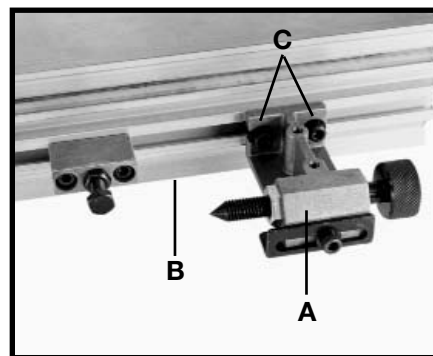

Fig. 21
1. Slide pattern holding bracket (A) Fig. 21 into bottom channel of duplicator rail (B) and tighten two screws (C). Adjustments will be made later.